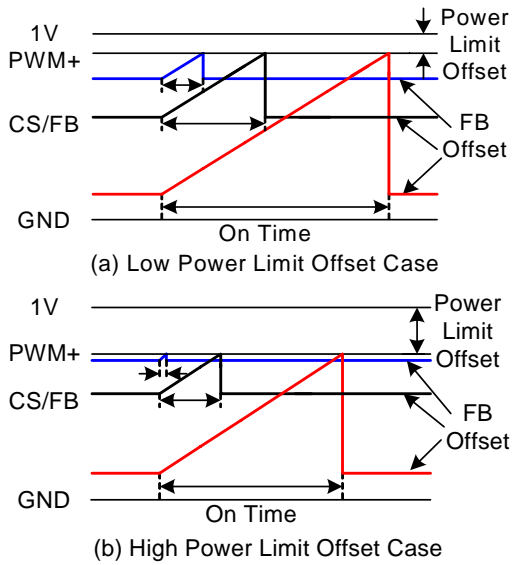

**Figure 20. Frequency Modulation**
The oscillator frequency is set internally and a frequency modulation (FM) function reduces EMI. The average frequency is 65kHz and the modulation frequency is  $\pm 2$ kHz. The frequency varies from 63kHz to 67kHz with 16 steps. The frequency step is 250Hz and FM frequency is 125Hz, as shown in Fig. 20.